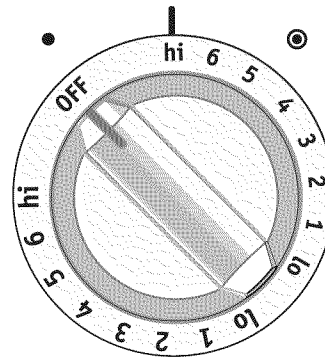
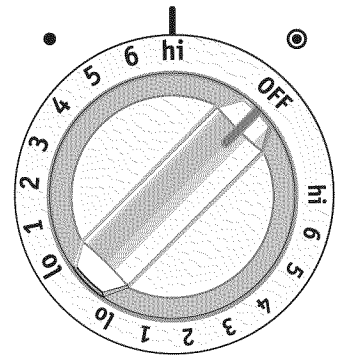

Figure 2
Figure 3
The cooktop is equipped with a dual radiant surface element located at the **right front** position (Figure 1). Symbols around the knob are used to indicate which coil of the dual radiant element will heat. The ● symbol indicates that only the inner coil will heat (Figures 2 & 4). The ◎ symbol indicates that both inner and outer coils will heat (Figures 3 & 5). You may switch from either coil setting at any time during cooking.
2. Push in and turn the control knob to the inner coil symbol for smaller cookware (Figures 2 & 4) or to inner and outer coil symbol for larger cookware (Figures 3 & 5). Turn the knob to adjust the setting if needed. Start most cooking operations on a higher setting and then turn to a lower setting to finish cooking. Each surface element provides a constant amount of heat at each setting. A glowing red surface heating area extending beyond the bottom edge of the cookware indicates the cookware is **too small** for the surface heating area.